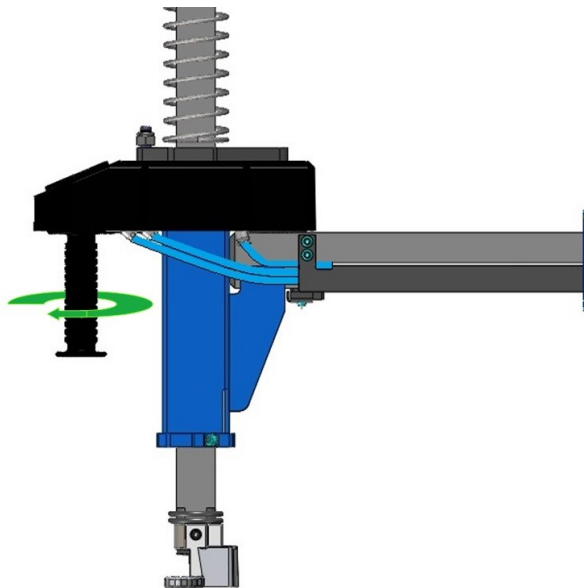

Fig. 4. Vertical slider unit.
Slider lock knob (fig. 4)
Turning the knob from the initial position to the right (fig. 4 - direction marked in green) immobilizes the slider and the arm with the working head in the working position. Turning the knob to the left loosens the horizontal slider and throws the vertical slider with the working head up.
- Then turn the knob to the right (fig. 4) - the sliders will be blocked and the working head will automatically assume the working position, taking into account the necessary clearance between the working head and the rim.
- Then turn the knob to the right (fig. 4) - the sliders will be blocked and the working head will automatically assume the working position taking into account the necessary clearance between the working head and the rim.
- Use the lock knob (fig.4) to unlock the arm and slider.